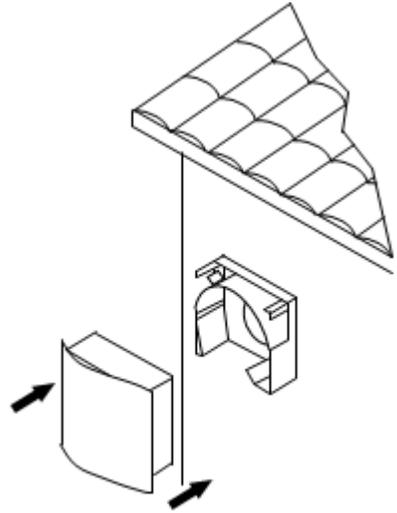

Fig 6
4. Attach front cover onto back plate (Fig 6).